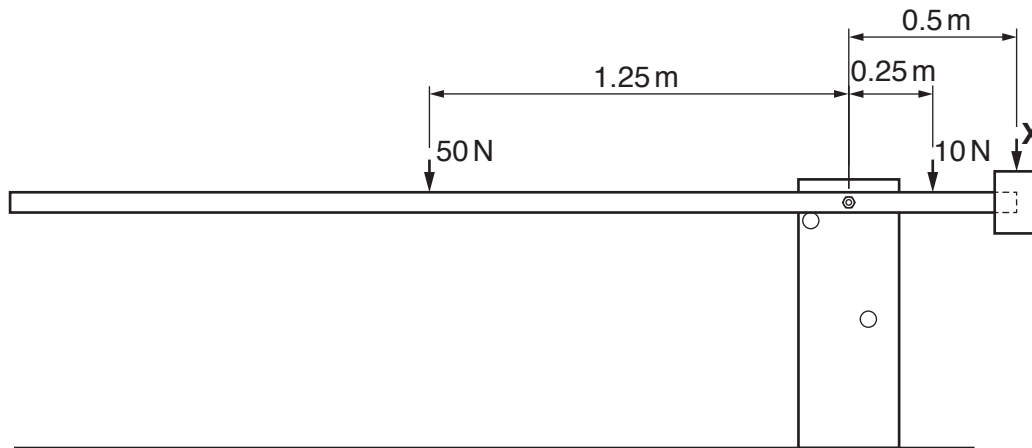

Fig. 10
- (d) Fig. 10 shows a car park barrier that lifts to allow a car to enter.